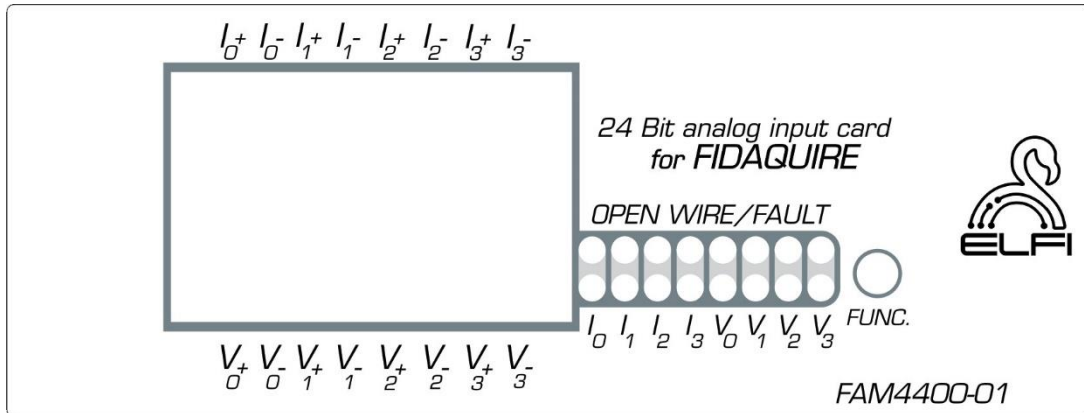

Figure 3: Image related to the card surface
- When the green light (bottom row in Figure 3) of the first channel turns on, connect the minimum voltage or current (depending on the type of channel) to the input terminal.
- By briefly pressing the func button, the lower range of the channel will be calibrated, and the yellow light (top row in Figure 3) of the current channel will turn on.